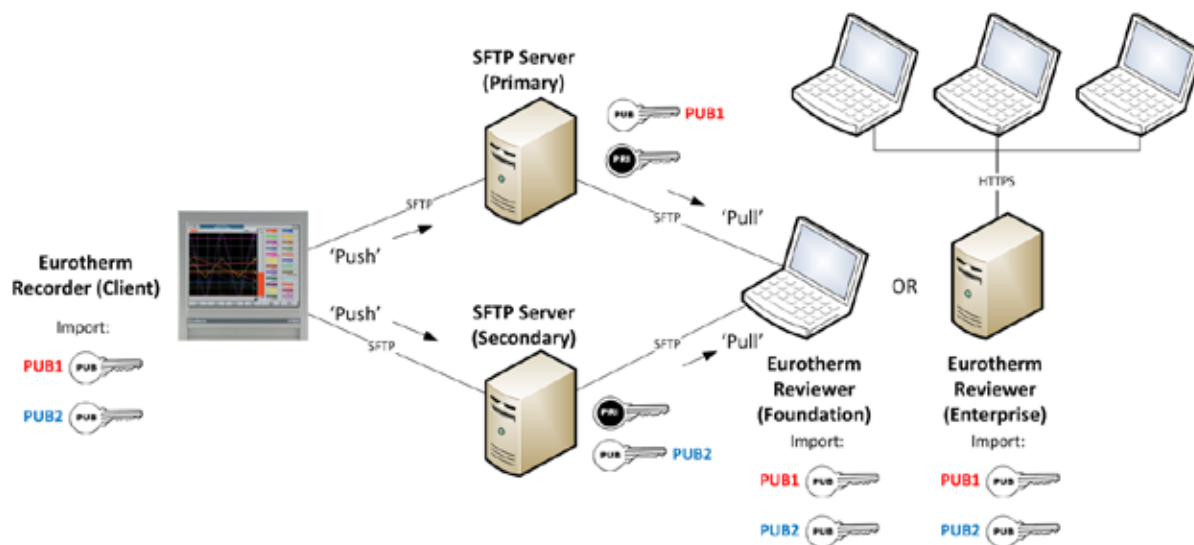

Figure 4.8b Secure FTP - Recorder as a Client
There are various system configurations, *Figure 4.8b Secure FTP - Recorder as a Client* displays a 6000 recorder as a client, connecting to two servers that are both running an SFTP server application.
- Export, or request a copy of the servers current SFTP public key. If connecting to multiple servers, the public key will be required from each server. (See *PUB1* and *PUB2* public keys, in "Figure 4.8b Secure FTP - Recorder as a Client" on page 247)
The Import Public key menu enables the user to import a SFTP Public key from an SFTP configured server. An example could be a recorder connected to and uploading, transferring data securely to an archive 'primary' server (or multiple servers), see "Figure 4.8b Secure FTP - Recorder as a Client" on page 247.